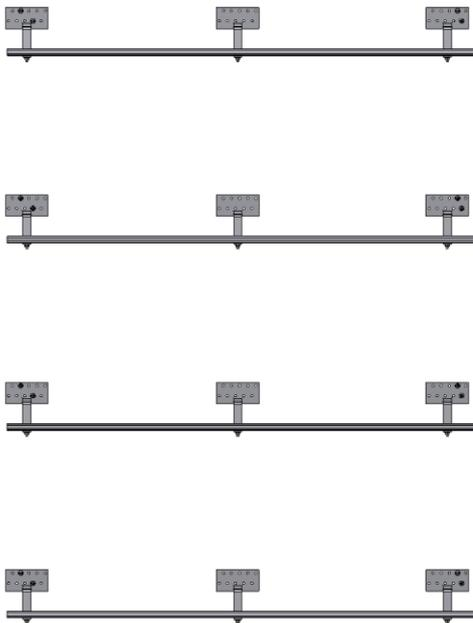

Figure 116: Carrier rail, fitted
- Start with the top or the bottom carrier rail. Align the screws with the fixing points (e.g. roof hooks) and secure them. See Figure 116.